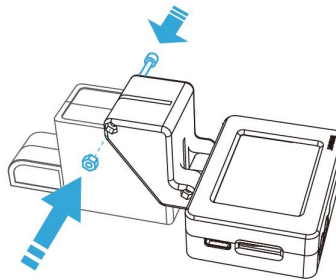

Figure 3.8 Fix AI camera
**Step 3** Install the screws and fix the AI camera to the servo, as shown in Figure 3.8.